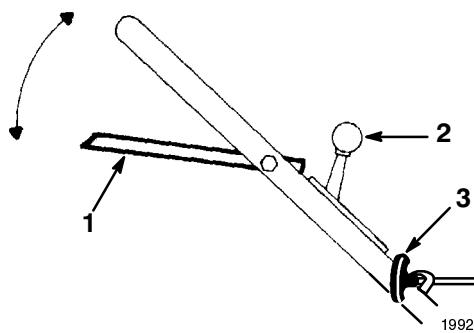
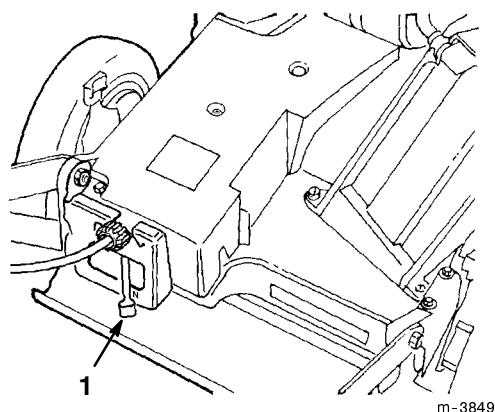

Figure 10
Figure 12
The blade control bail, the throttle control, and the starter handle are on the upper handle as shown in Figure 10.
2. Move the throttle control to the  (Fast) position (Fig. 10) and the ground speed control to the *Neutral* position (Fig. 12).